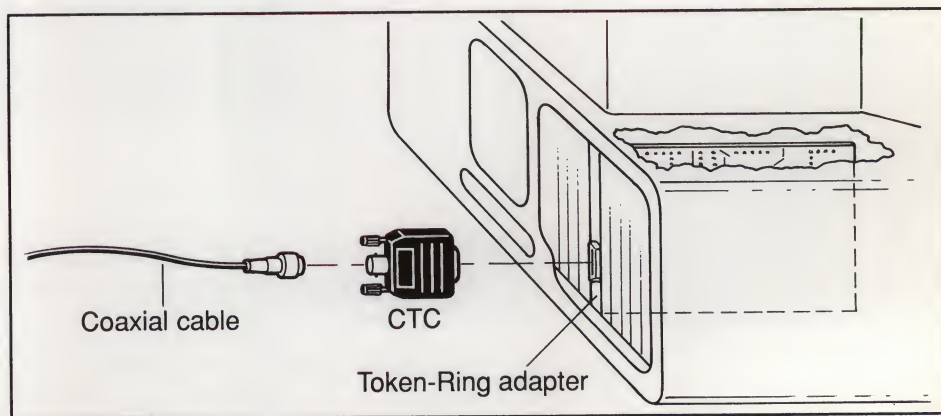

Figure 14. The CTC is attached directly to the Token-Ring board.
Connect the CMAUs to each other via the trunk cabling. Ring In (RI) should be connected to Ring Out (RO). Figure 14 shows how two Coaxial CMAUs are interconnected. Connector RI 01 of the first CMAU is connected to RO 01 of the second CMAU, etc. If the connection is OK, the respective yellow LEDs should now be lit. When Type 1 CMAUs with cable protection are installed, the RI/RO LEDs light only if the connections are OK and if a station is active on respective CMAU. The signal is otherwise passed through.